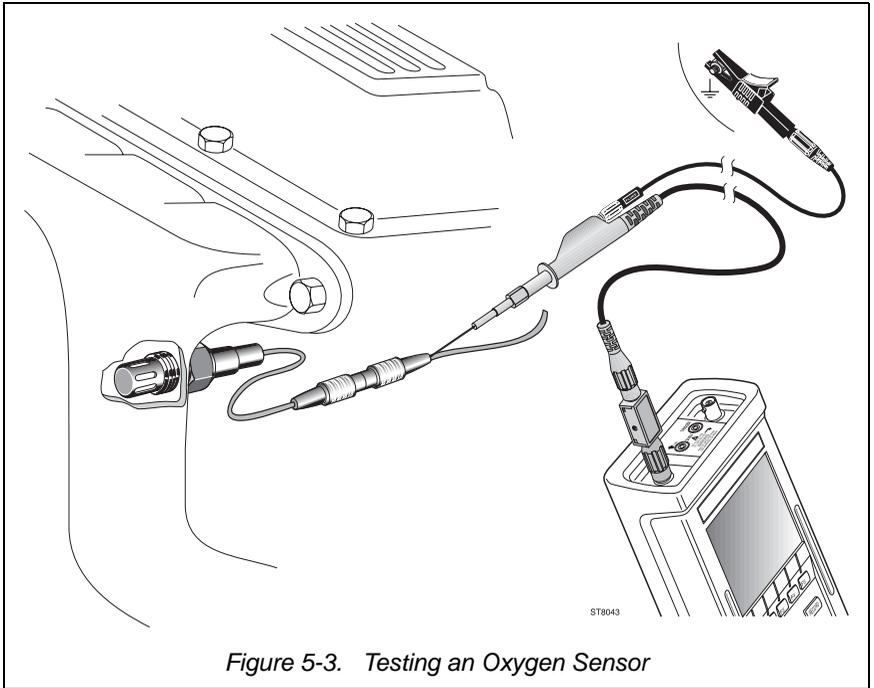

Figure 5-3. Testing an Oxygen Sensor
③ Connect the test leads as displayed by the test tool's Connection Help and shown in Figure 5-3.
④  Starts the oxygen sensor test.